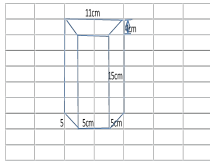

Fig. 1.234.
3. Calculate the volume and total surface area of the solid prism show in figure. 1.234